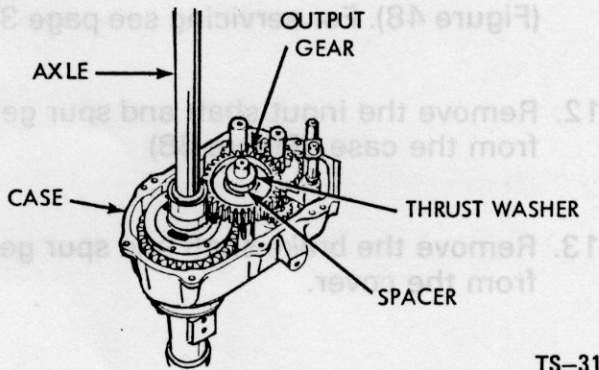

Figure 46 - Output Gear and Shaft
8. Remove washer, spacer spur gear and output shaft (Figure 46) from case.